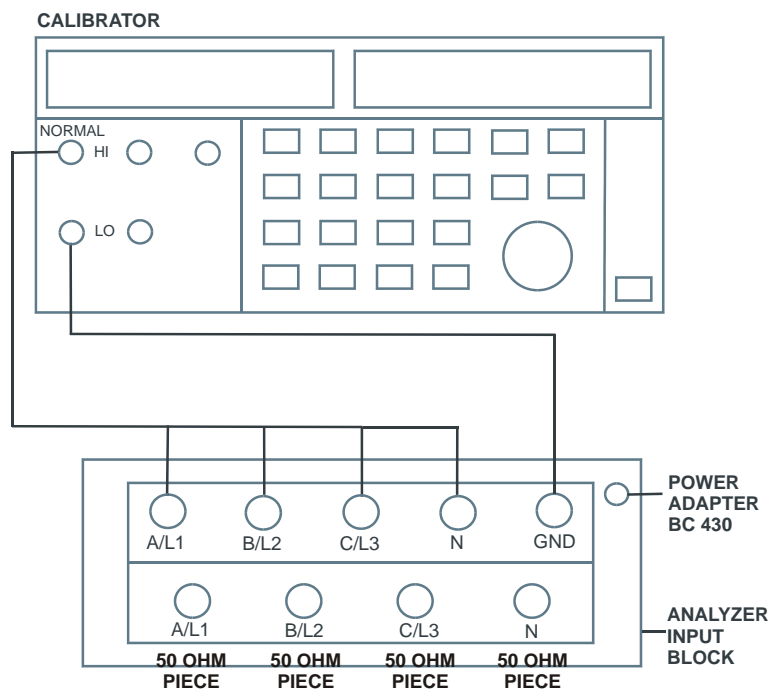

Figure 4-4. Checking the Channel isolation.
11. Connect the N input with the C/L3 input (See Figure 4-4). A/L1, B/L2, C/L3 now give zero reading.
- Connect the N input with the C/L3 input (See Figure 4-4). A/L1, B/L2, C/L3 now give zero reading.